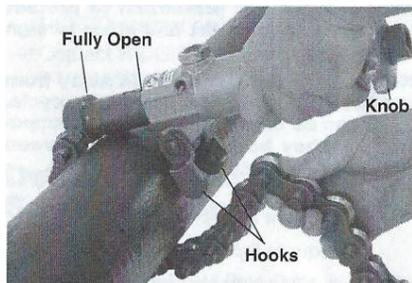

Figure 3 - Cutter Fully Open, Hooking the Chain
6. Grip the adjusting knob of the soil pipe cutter and turn counter clockwise to fully open (Figure 3).